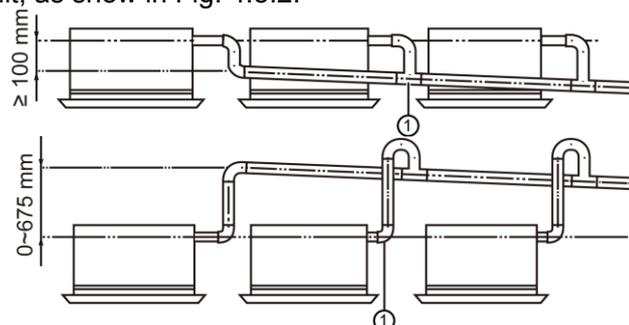

Fig 4.3.2
- (1) Drainage pipe should have the same diameter or larger diameter than the connection pipes(PVC pipe, outside diameter 25mm, thickness  $\geq 1.5$ mm).
- (2) Keep drainage pipe short and sloping downwards at a gradient of at least 1% for preventing forming air bubbles.
- (3) Insert the drainage hose into drain socket and then tighten the metal clamp securely.
- (4) Warp the sealing pad over drainage hose and metal clamp for heat insulation.
- (5) Make sure to perform insulation work for all drainage hoses in the room in order to prevent any possible water dropping due to dew condensation.
- (6) Apply the suitable diameter for converging drainage pipe according to the operating capacity of the unit, as show in Fig. 4.3.2.